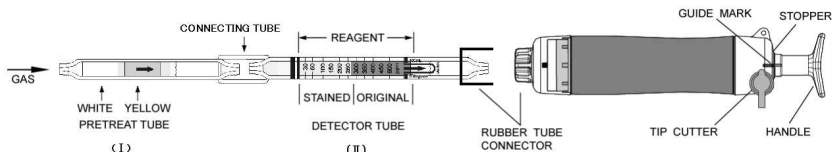

Fig.1
- ① Break both ends of the pretreat tube ( I ) and detector tube ( II ), and connect each end of the pretreat tube ( I ) and detector tube ( II ) with connecting tube as shown in Fig. 1.
- ② Insert the detector tube ( II ) into the aspirating pump securely as shown in Fig.1. (Arrow mark shall point to the pump.)
- ③ Align the guide marks on the shaft and stopper of the aspirating pump.
- ④ Pull the pump handle at a full stroke until it locks and wait for 2 minutes or until the completion of sampling is confirmed with the flow indicator of the pump. (See descriptions about the flow indicator in the instruction manual of the pump.)
- ⑤ On completion of sampling, read the scale at the maximum point of the stained layer.